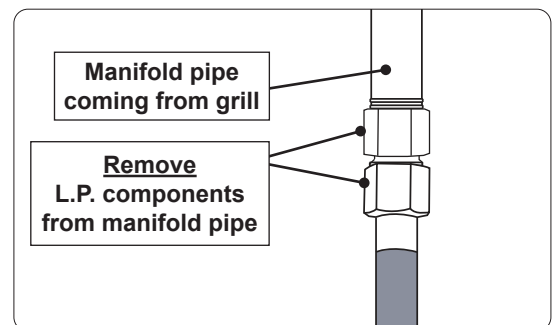

Fig. 2-1 Remove L.P. components
- Remove the L.P. tank, regulator hose, and adapter attached to the manifold pipe located inside the grill cabinet (see Fig. 2-1).